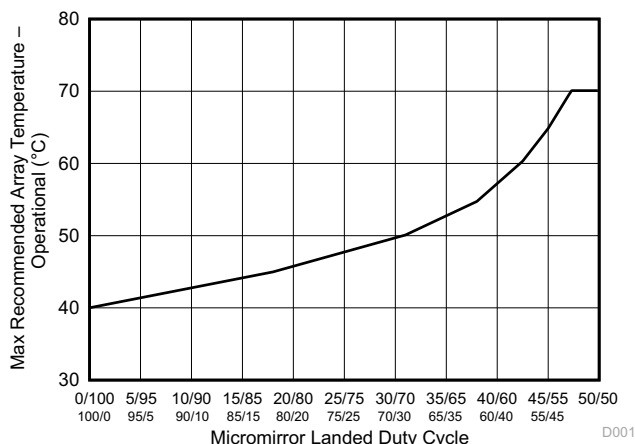

Figure 6-1. Maximum Recommended Array Temperature – Derating Curve
- (12) Per Figure 6-1, the maximum operational array temperature should be derated based on the micromirror landed duty cycle that the DMD experiences in the end application. Refer to Section 7.8 for a definition of micromirror landed duty cycle.
- (13) Long-term is defined as the usable life of the device.
- (14) Short-term is the total cumulative time over the useful life of the device.
- (15) The maximum marginal ray angle of the incoming illumination light at any point in the micromirror array, including at the pond of micromirrors (POM), should not exceed 55 degrees from the normal to the device array plane. The device window aperture has not necessarily been designed to allow incoming light at higher maximum angles to pass to the micromirrors, and the device performance has not been tested nor qualified at angles exceeding this. Illumination light exceeding this angle outside the micromirror array (including POM) will contribute to thermal limitations described in this document and may negatively affect lifetime.